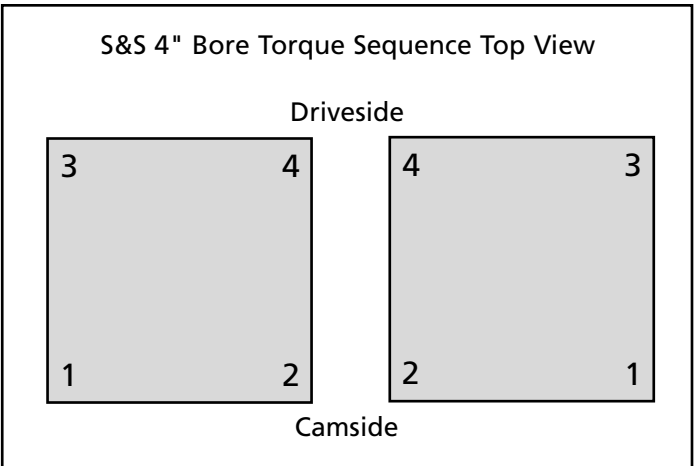

Figure 2
- Tighten capscrews evenly in following stages according to sequence. See Figure 2. Note that sequences are different for front and rear cylinder.